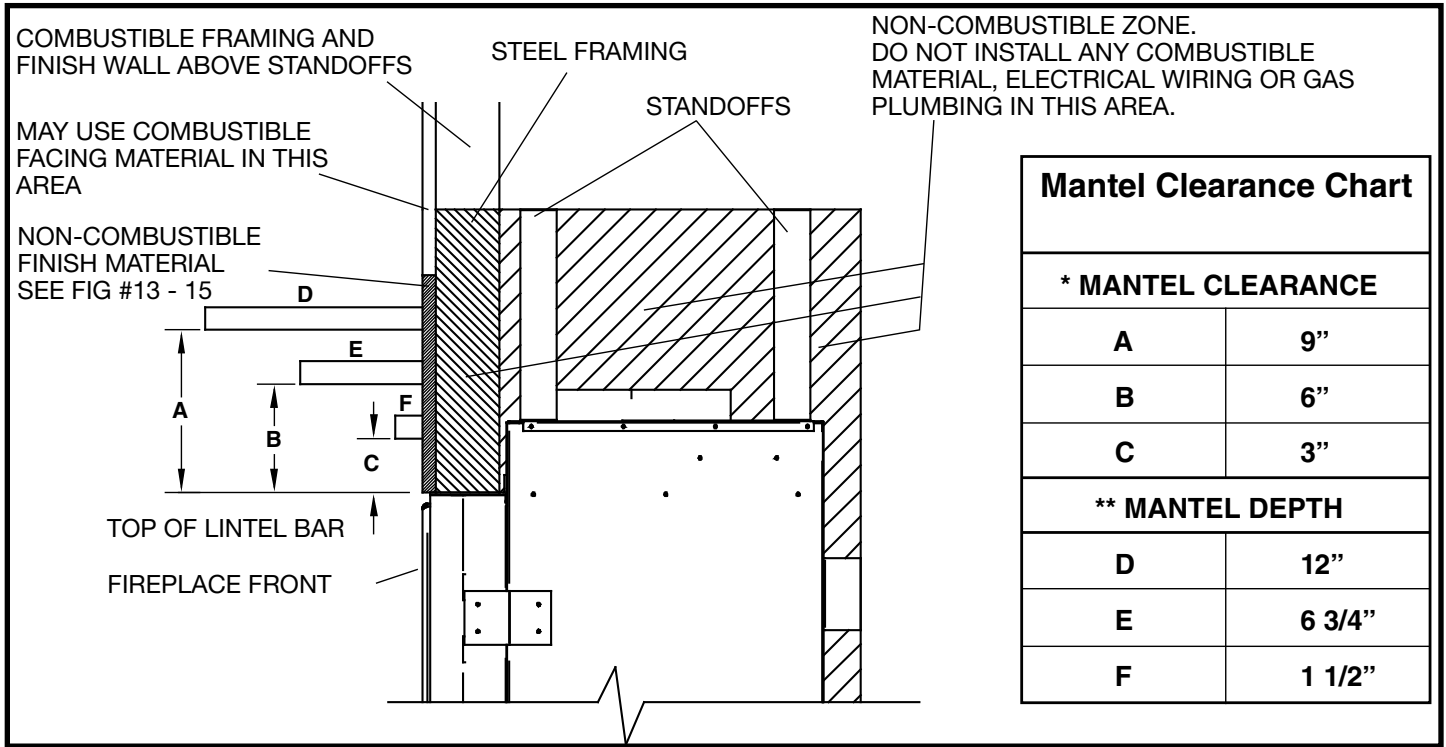
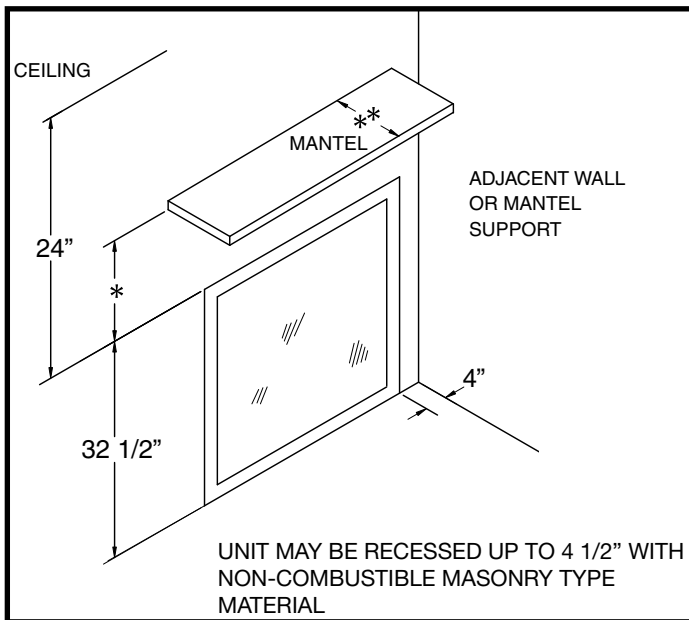

Figure 3: TC36D2 Mantel clearances.
Figure 4: TC36D2 Mantel.
*Mantel to appliance	(Figure 3)
**Maximum Mantel extension	(Figure 4)
The minimum clearances from the fireplace to combustible surfaces must be adhered to and are shown in Figure 3 & Figure 4.